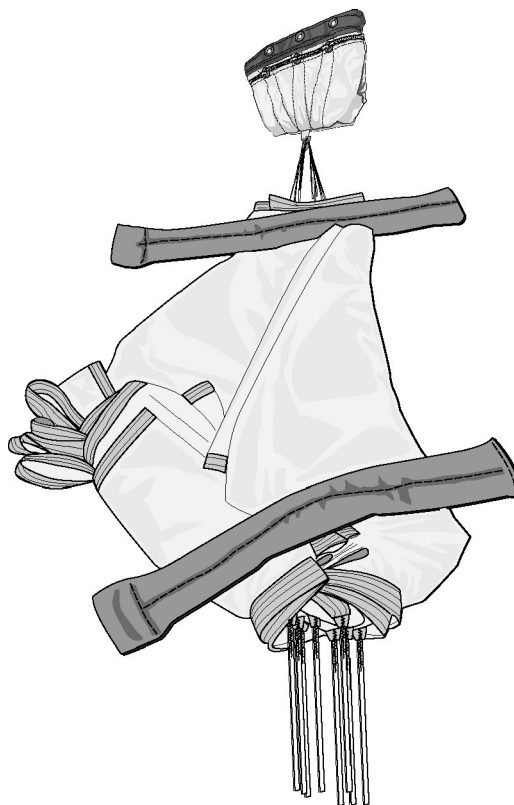

Figure 10. Right Side Panels 6-10 Folded
- k. Take the leading edge and fold the five (5) right-side panels inward (#6-10 panels) and parallel to the suspension lines. Hold in place with shot bags (Figure 10).